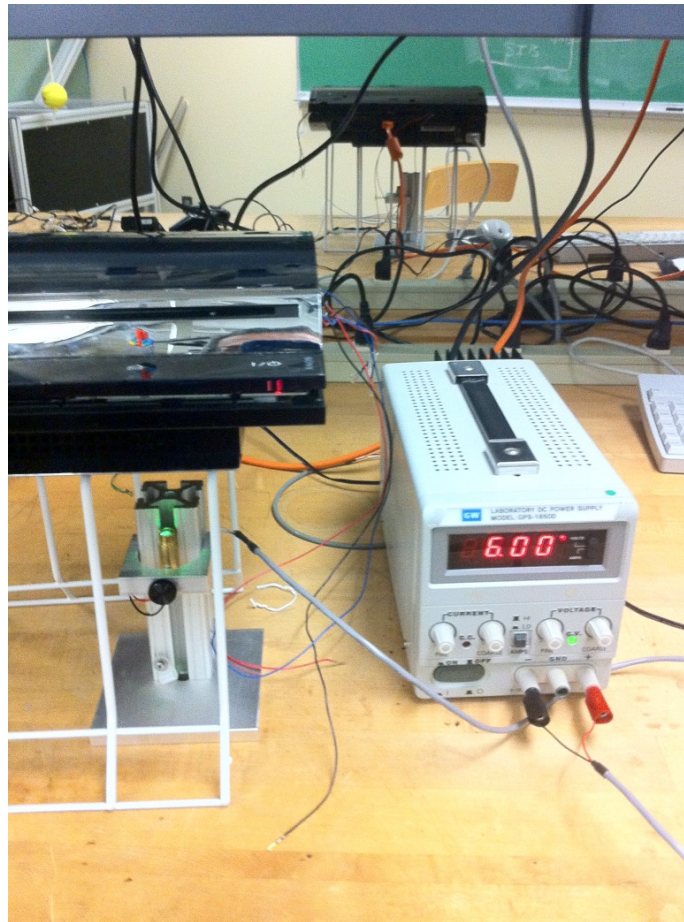

Figure 11 - Clamping and alignment of laser for photocell measurements of fan speed.
2. Align the laser and photocell and fix the position with the clamp. The final setup should look like Figure 11.